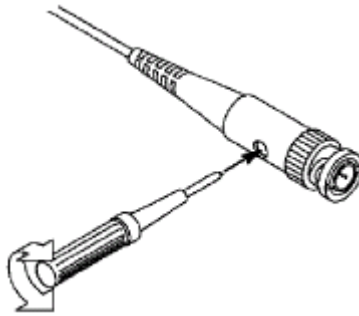

Figure 4-8 Adjust Probe
2. Check the displayed waveforms and regulate the probe till a correct compensation is achieved (see *Figure 4-7* and *Figure 4-8*).